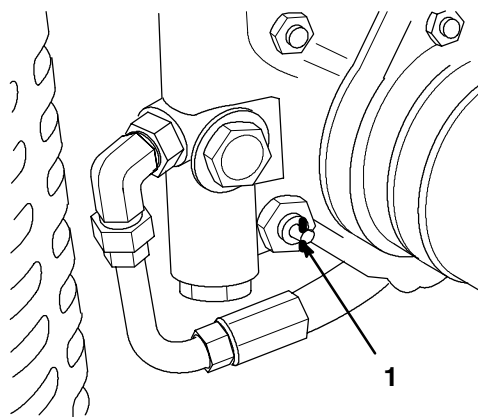

Figure 30
1. Locate the bypass valve on the pump and rotate it 90° (Fig. 30).